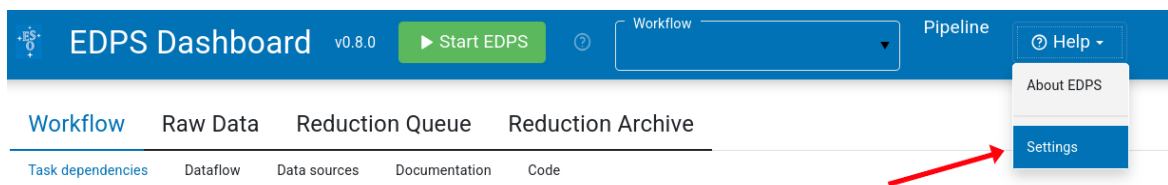

Figure 2: The “Help” → “Settings” menu.
3. Optionally, before starting EDPS, one can specify new settings by pressing Help → Settings (Figure 2).